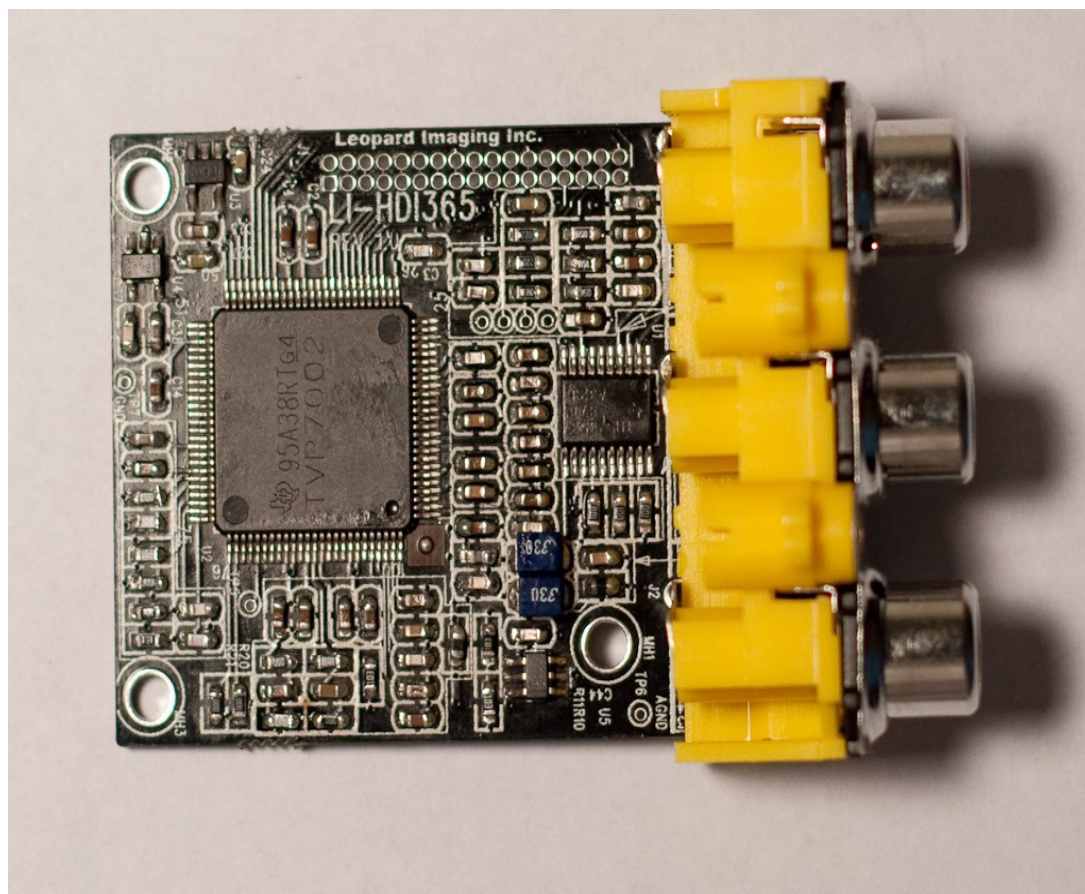

Figure 18. HD Component
**1.2.7 HD Component Video Input Board, see Figure 18**